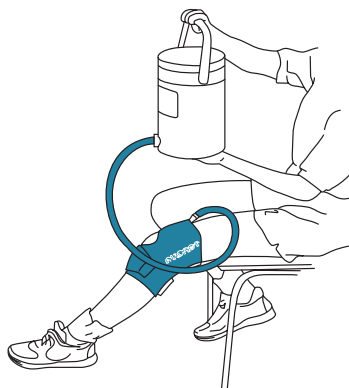

Figure 3
3. Fill and pressurize Cryo/Cuff (Figure 3)